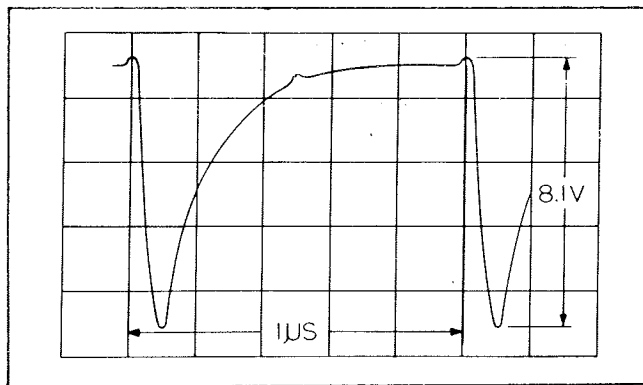

Figure 6.9 - Q14, Collector Waveform
c. Reconnect oscilloscope to collector of pulse shaper stage Q14 (or left end of R47). The observed 1 MC waveform should resemble the one shown in figure 6.9.